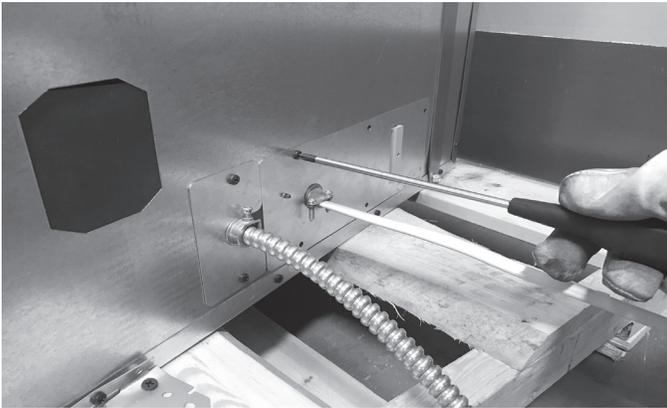

Figure 8.4 Junction Box Assembly Removal
- Remove the (6) screws attaching the junction box assembly to the outer shell. Pull junction box assembly out to disengage it from the outer shell. See Figures 8.4 and 8.5.